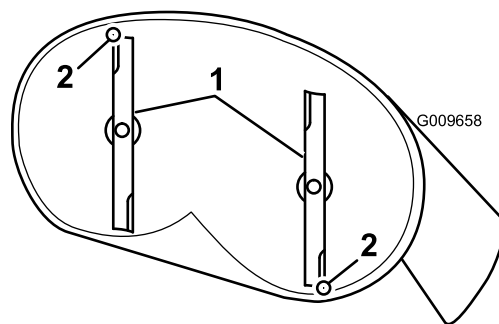
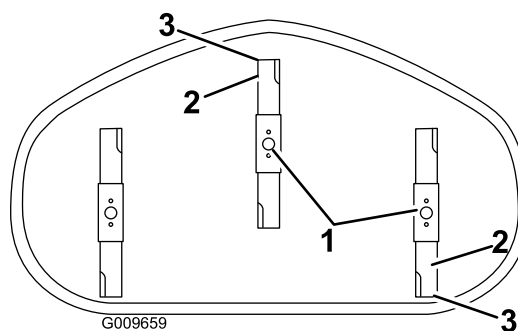

Figure 61
Figure 62
4. Carefully rotate the blades so they are facing front to rear (Figure 61 and Figure 62).
5. Measure from the tip of the front blade to the flat surface and the tip of the rear blade to the flat surface (Figure 61 and Figure 62). If the front blade tip is not 1/16-5/16 inch (1.6-7.9 mm) lower than the rear blade tip, adjust the front locknut.
8. After adjustment, check the front-to-rear slope again. Continue adjusting the nut until the front blade tip is 1/16-5/16 inch (1.6-7.9 mm) lower than the rear blade tip (Figure 61 and Figure 62).